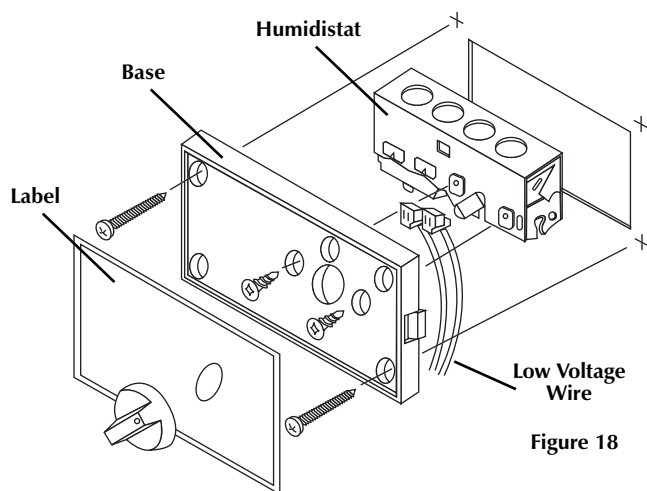

Figure 18
The humidistat is packaged at the factory ready for wall mounting. You will have to convert it to duct mounting. Refer to fig. 18, when duct mounting the humidistat must be located upstream (approx 6") from the humidifier or bypass tube on the return duct. Select a convenient location to mount the humidistat on the return duct. The unit comes with a humidistat mounting template. THIS TEMPLATE IS FOR DUCT MOUNTING THE HUMIDISTAT ONLY.
9. In the duct mounting application the base plate is used as the front cover, reattach the humidistat control to the base plate (fig 18).